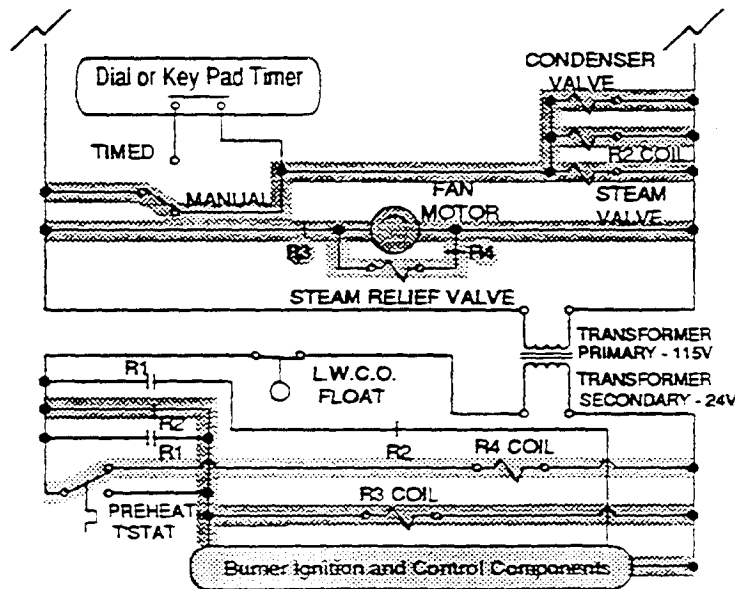

Figure 5-8. Partial Schematic - Steam Valves - 24-CGA-10
1. The normally closed lower compartment condenser and steam valves open. Condenser spray starts flushing the condenser drain fitting. The steam path opens between the lower compartment and the steam generator (Figure 5-8, dark shading).
- Water Temperature over 185°F activates the Preheat Thermostat. The preheat side of the switch opens, closing the R4 (Steam Relief) side of the switch (Figure 5-8, light shading).